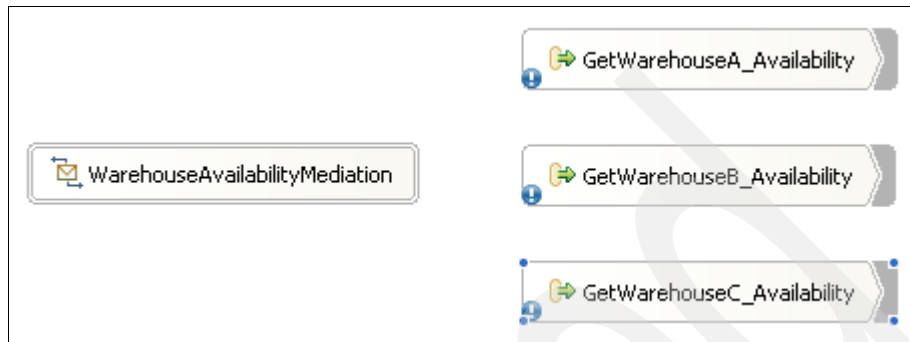

Figure 6-22 WarehouseAvailabilityMediation assembly diagram after dragging imports and refactoring the names
3. Rename the three services (using refactoring) to GetWarehouseA\_Availability, GetWarehouseB\_Availability, and GetWarehouseC\_Availability, as shown in Figure 6-22.